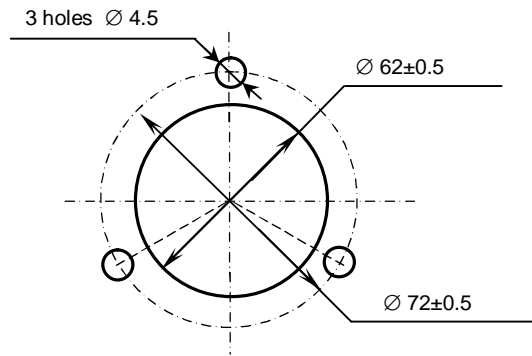

Figure C.4 – The LGF-12-003B-100 Hand Wheel Mounting Dimensions
13.2.2.2 The holes positions for mounting the hand wheel LGF-12-003B-100 is given in Figure C.4.